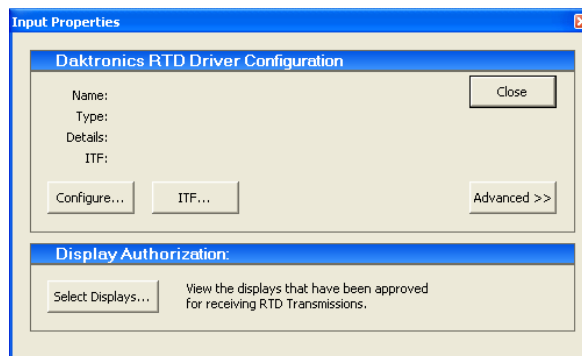

Figure 8: Input Properties
3. In the *Input Properties* window (*Figure 8*), click **Configure**.
6. Back on the *Input Properties* window (*Figure 8*), click **ITF**.
- Back on the *Input Properties* window (Figure 8), click **Select Displays**. Choose the display that the data will be sent to and click the arrow to move it into the *Authorized for RTD Input* column, and then click **Close**.